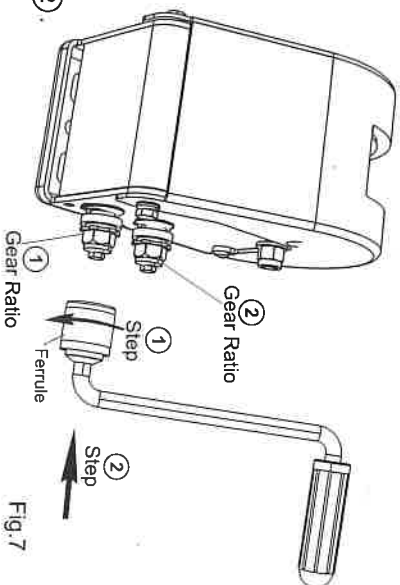

Fig. 7
Push the Handle into your selected Driving Shaft ① or ②. Refer Fig. 7